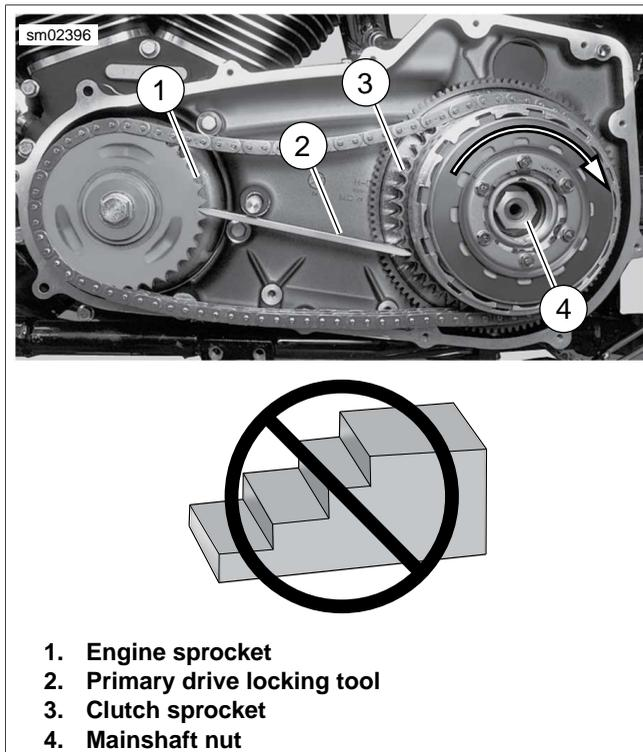

Figure 6-7. Removing Clutch Hub Mainshaft Nut
- See Figure 6-7. When removing the clutch hub mainshaft nut the PRIMARY DRIVE LOCKING TOOL (Part No. HD-47977) (2) must be placed between the teeth of the engine and clutch sprockets.